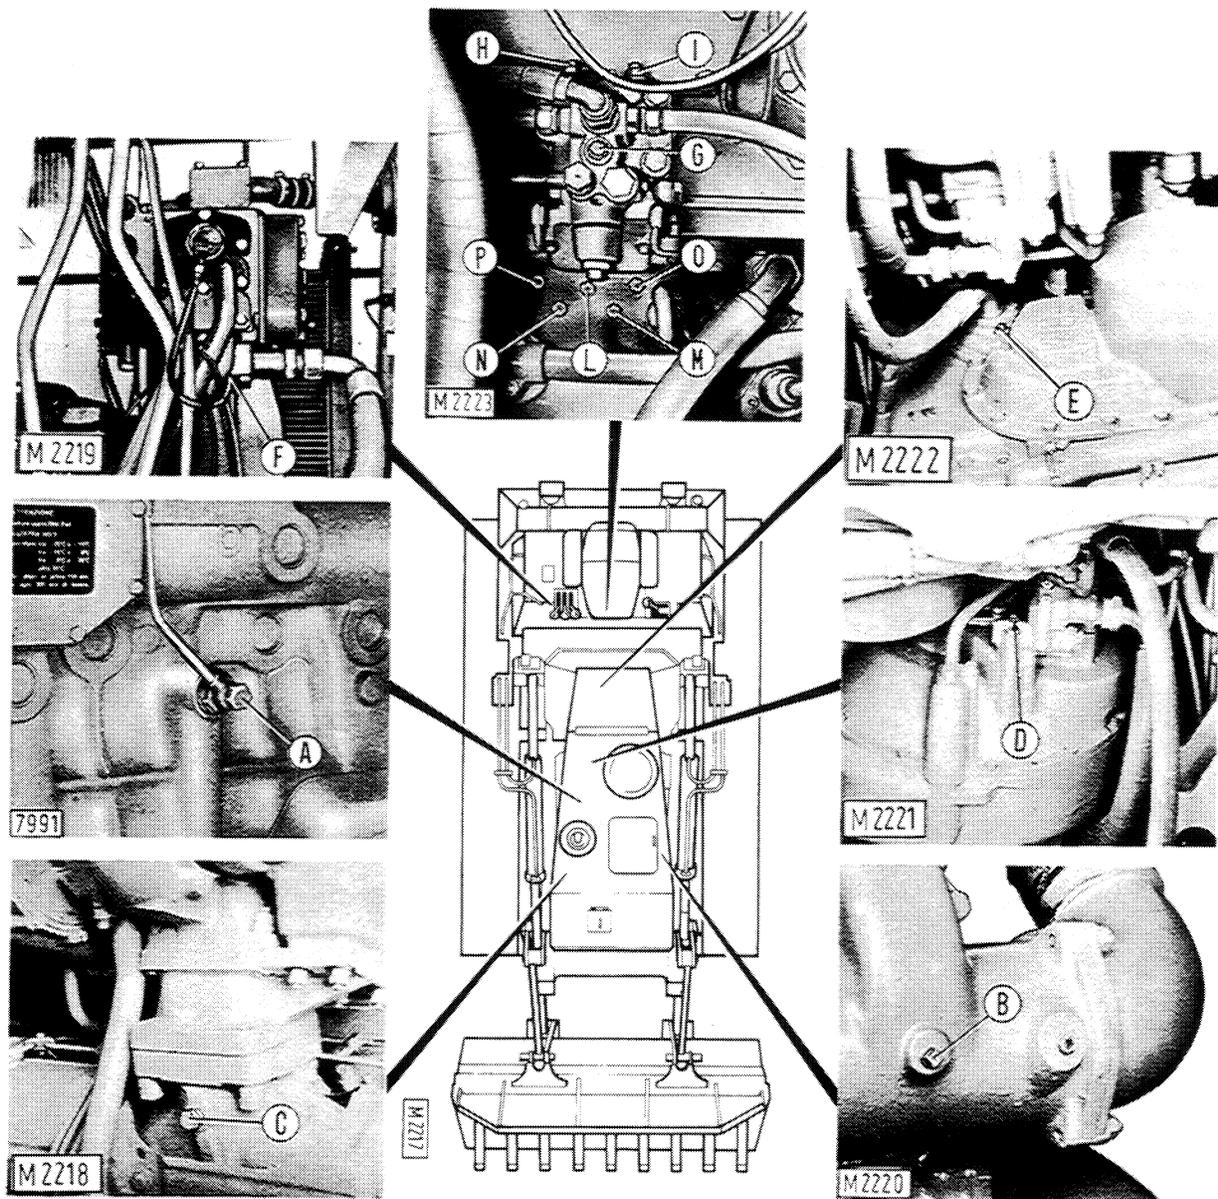

Fig. 1-7 - Schematic and pictures of troubleshooting check points.
- identification letters for the pressure points shown in Fig. 1.7;